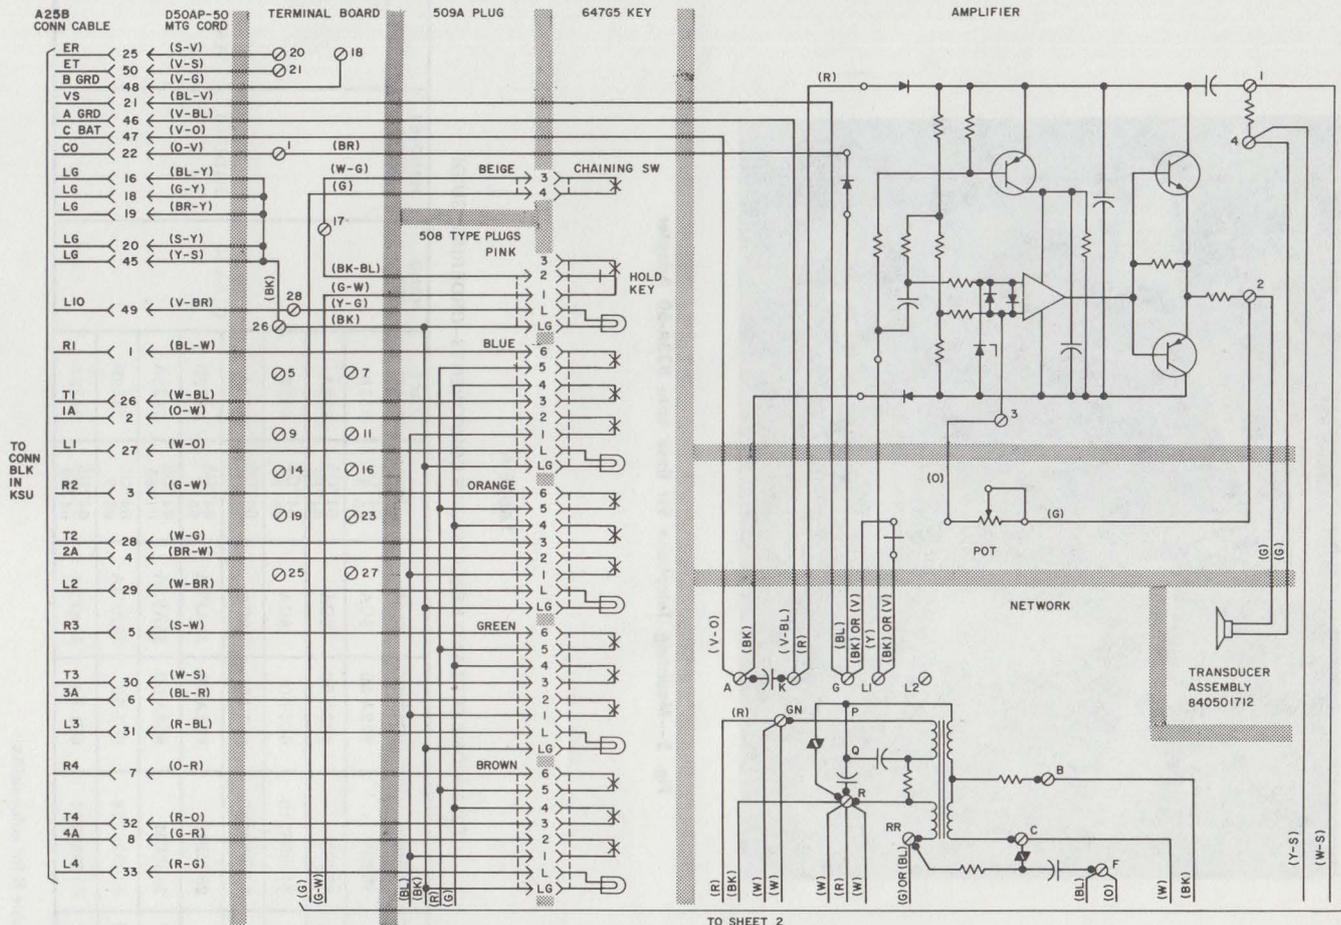

Fig. 6—832A (MD) Telephone Set, Connections (Sheet 1 of 2)
3.01 Install telephone sets at desired locations, making sure that any options are installed before telephone set is connected. See Fig. 6 through 15 for schematics of 832A, 2832A, 832B, BM, DM, 2832B, BM, DM, 832C, CM, EM, 2832C, CM, or EM telephone sets, respectively.
3.10 Refer to Fig. 6 through 15 for telephone set schematics.